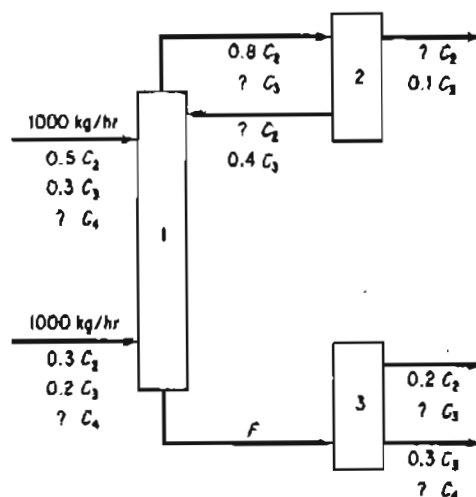

Figure P11.5
- **11.5** A distillation process is shown in Figure P11.5. You are asked to solve for all the values of the stream flows and compositions. How many variables and unknowns are there in the system? How many independent material balance equations can you write? Explain each answer and show all details how you reached your decision. For each stream (except F , the only components that occur are labeled below the stream).